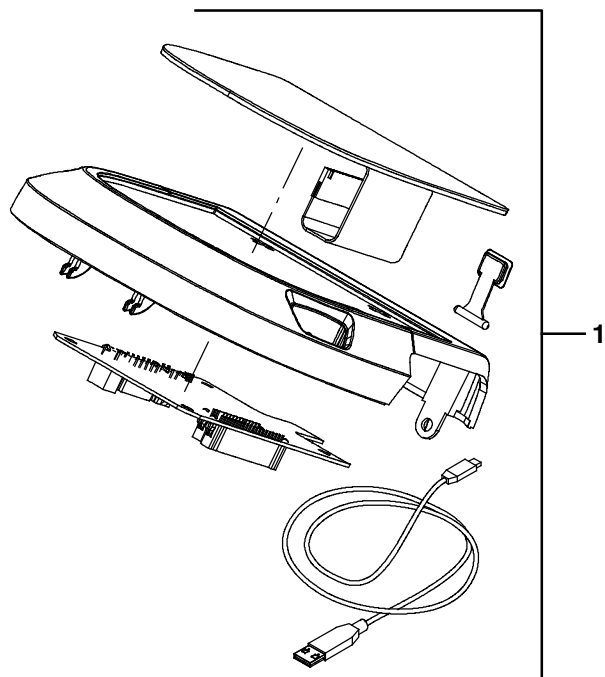

Fig. 24
4. Open the “Downloads” folder and locate the “LE_Setup_xxxx” zip file. Open the zip file and double click on the “LE_Setup_xxx” file to install the application software on your computer (Figure 24). Follow instructions on screen to install.